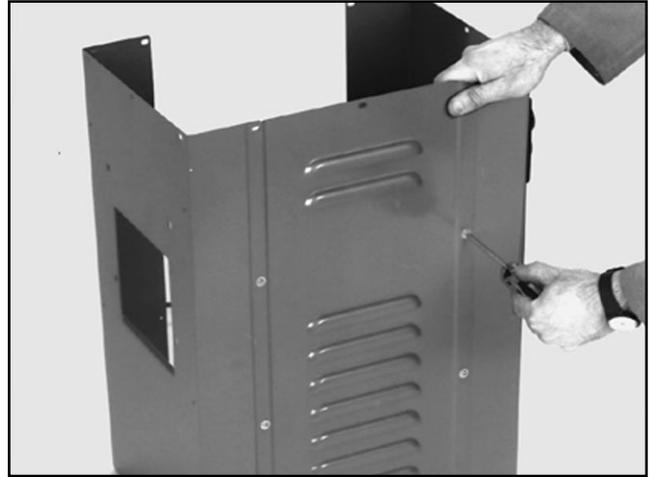

Figure 2. Attachment of the two end panels.
1. Begin by attaching the two ends to the front panel with the machine screws and washers provided. **Figure 2.**